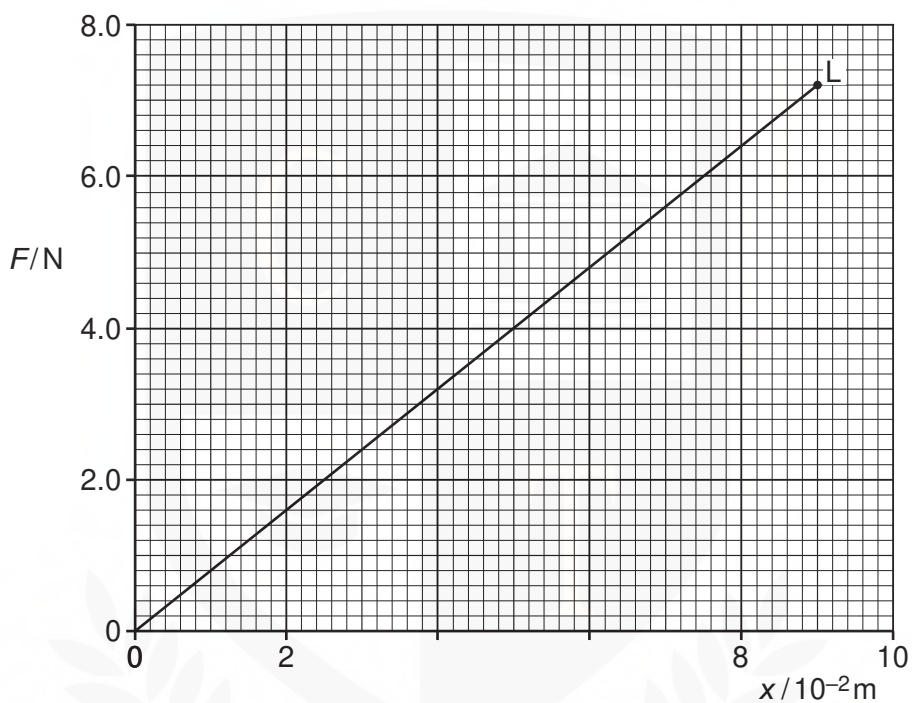

Fig. 6.1
- (b) The variation with extension x of the force F for a spring A is shown in Fig. 6.1.